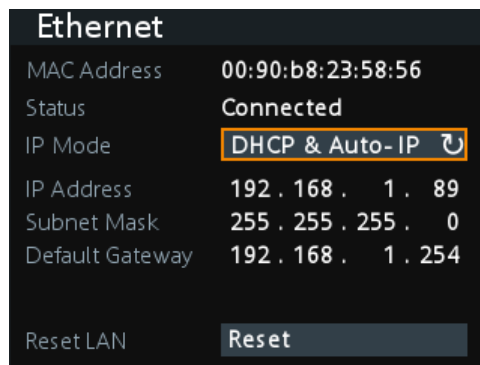

Figure 5-2: Ethernet settings dialog
3. **NOTICE!** If the R&S NGA100 cannot obtain an IP address automatically, or cannot establish the connection, the status shows "Disconnected" in the Figure 5-2. Possible reasons are that the LAN does not support DHCP or requires a specific TCP/IP configuration, or that the connection is missing.
If switched on and connected, the R&S NGA100 indicates the address information and LAN parameters in the Ethernet setting dialog. See Figure 5-2.